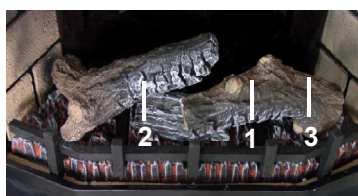

FIG 4
3. Place one end of log 3 onto the hole on grate, with the other end placed on log 1 (where marked). (See FIG 4).